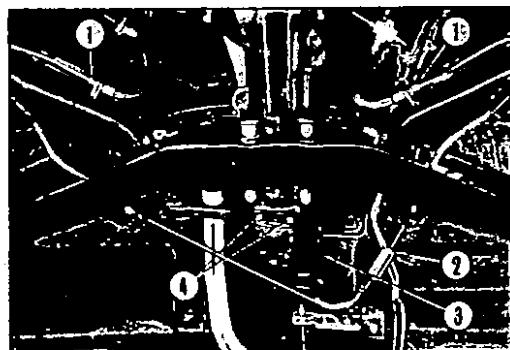

Fig. H.3 Rear suspension removal.
2. Remove the road wheels, disconnect the handbrake linkage and the return spring. (Fig.H.3.).
7. Place a jack under the centre of the suspension member and differential carrier and remove the nuts securing the suspension member to the body (7 in Fig.H.3.). Remove the differential mounting nuts (8).